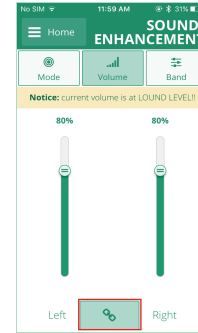
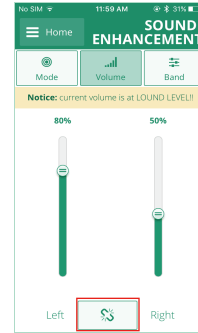

Fig. 22
Fig. 23
**Volume control setting:** Both instruments can be adjusted together at the same level by select link/lock icon (Fig. 22), or variably change level separately by unlink/unlock the icon (Fig. 23)